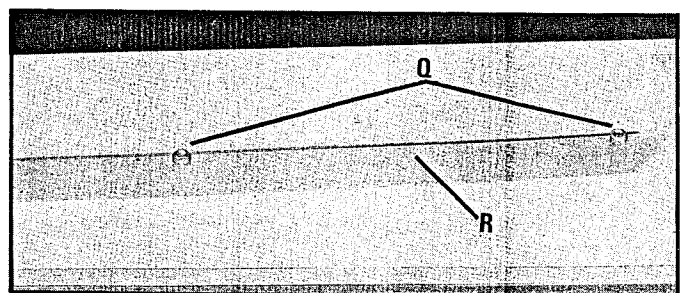

Fig. 27
10. Place the two 3/8" - 24 hex nuts (Q) in position on the two tabs on the cardboard template (R) as shown in Fig. 27.